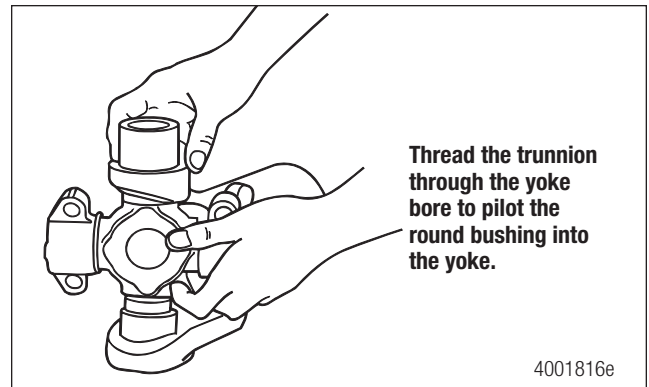

Figure 5.59
- Position the second bushing onto the trunnion by threading the cross through the yoke bore as shown. Figure 5.59.